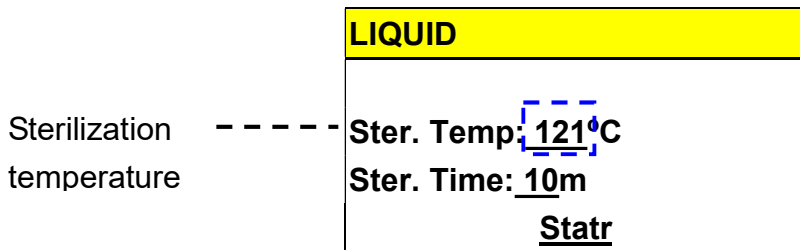

Figure 67
- Press  button to store sterilization temperature parameter as shown in Figure 67.